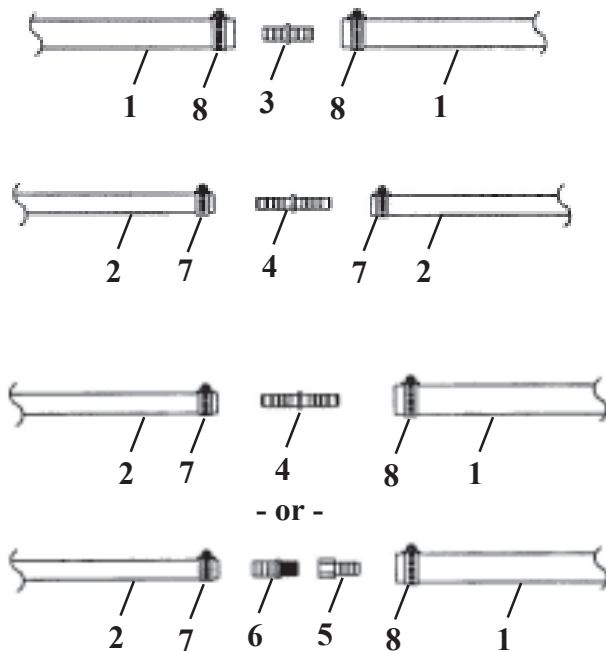

Figure 6
5. Attach any additional lengths of tubing, if necessary, to the tubing from the previous step with the couplings provided and secure with the hose clamps provided until desired length is achieved. See Figure 6 for the proper coupling configuration.